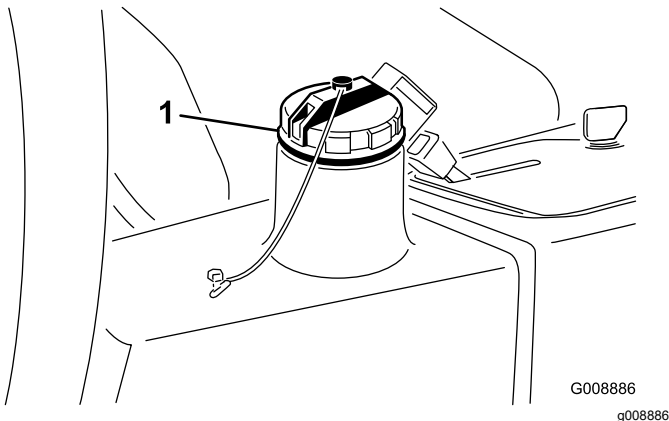

Figure 60
3. Fill the reservoir (Figure 60) with approximately 3.5 U.S. gallons (13.2 l) of hydraulic fluid; refer to Checking the Hydraulic System.